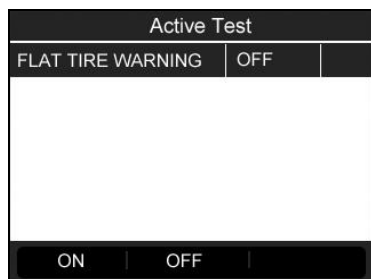

Figure 4.38
- 4) Press the corresponding **FUNCTION BUTTON 'ON' or "OFF"** to check whether the TPMS warning lamp on the vehicle is turning on or off. (Figure 4.38)